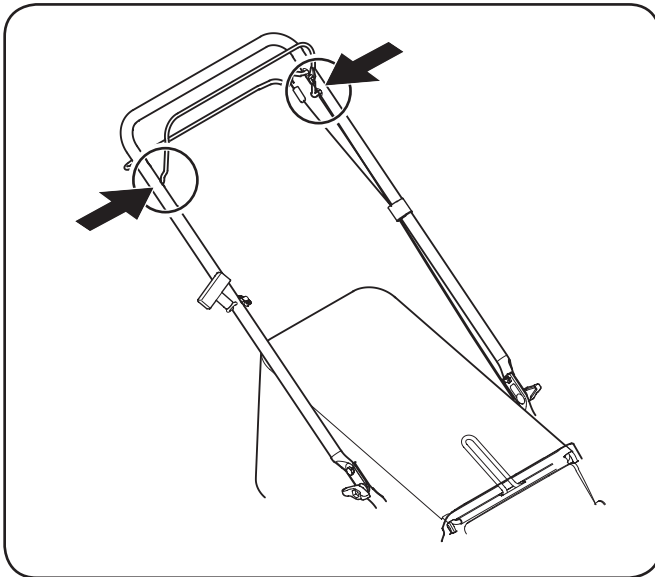

Figure 6-1
1. Lubricate pivot points on the blade control at least once a season with light oil. The blade control must operate freely in both directions. See Fig. 6-1.